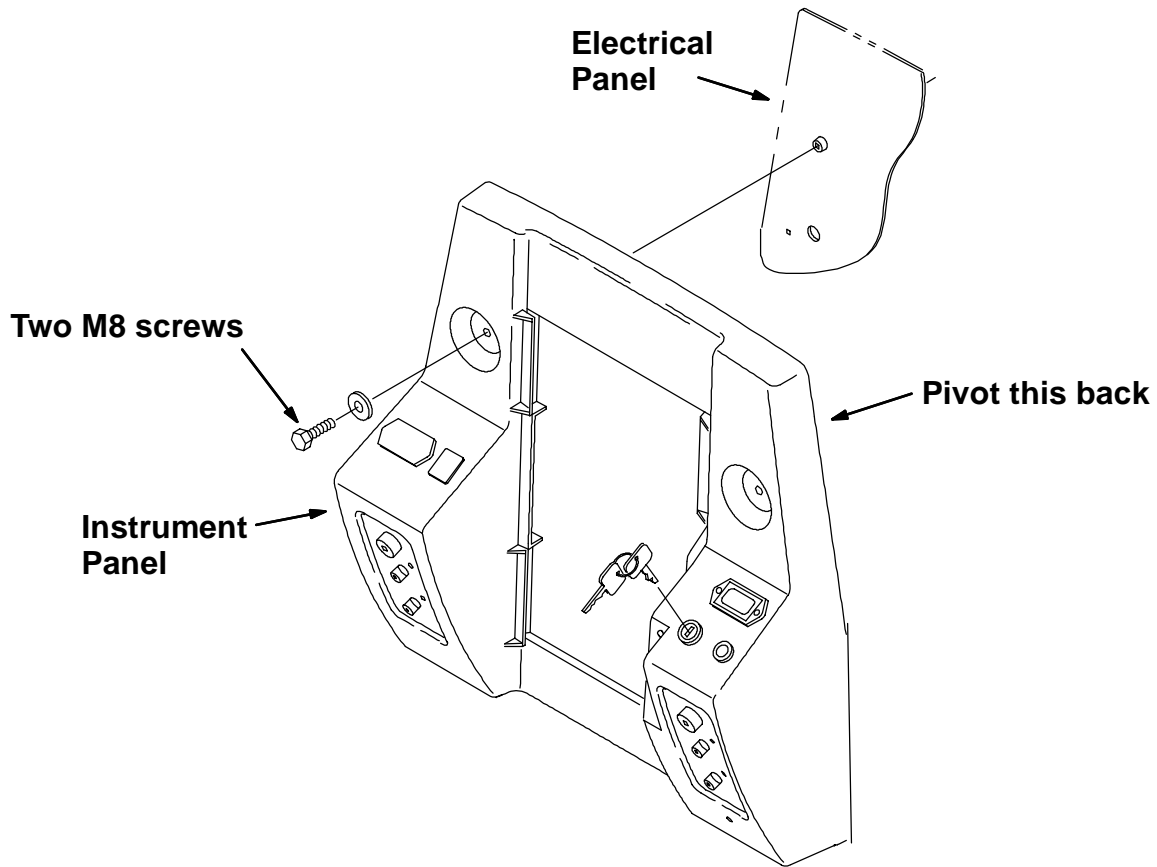

FIG. 3 - Instrument Panel And Circuit Breakers
4. Remove the two M8 hex screws holding the top of the instrument panel to the electrical panel. (Refer to FIG. 3)
5. Tilt the instrument panel assembly back until the lanyard strap is tight. (Refer to FIG. 3)
6. Pivot the instrument panel assembly back to the electrical panel. Reinstall the two M8 hex screws and tighten. (Refer to FIG. 3)